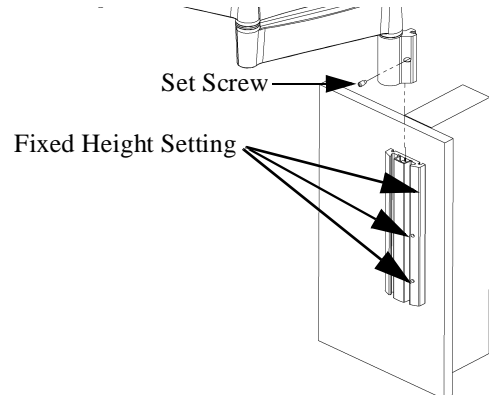

Figure 3. Install iC-SP-DA1 and Tighten Set Screw
- A. Install the iC-SP-DA1 on the wall plate, set to desired height at one of the fixed height settings and secure by tightening the set screw (see Figure 3).
- D. Install the iC-SP-DA1 on the wall plate, set to desired height at one of the fixed height settings and secure by tightening the set screw (see Figure 3).